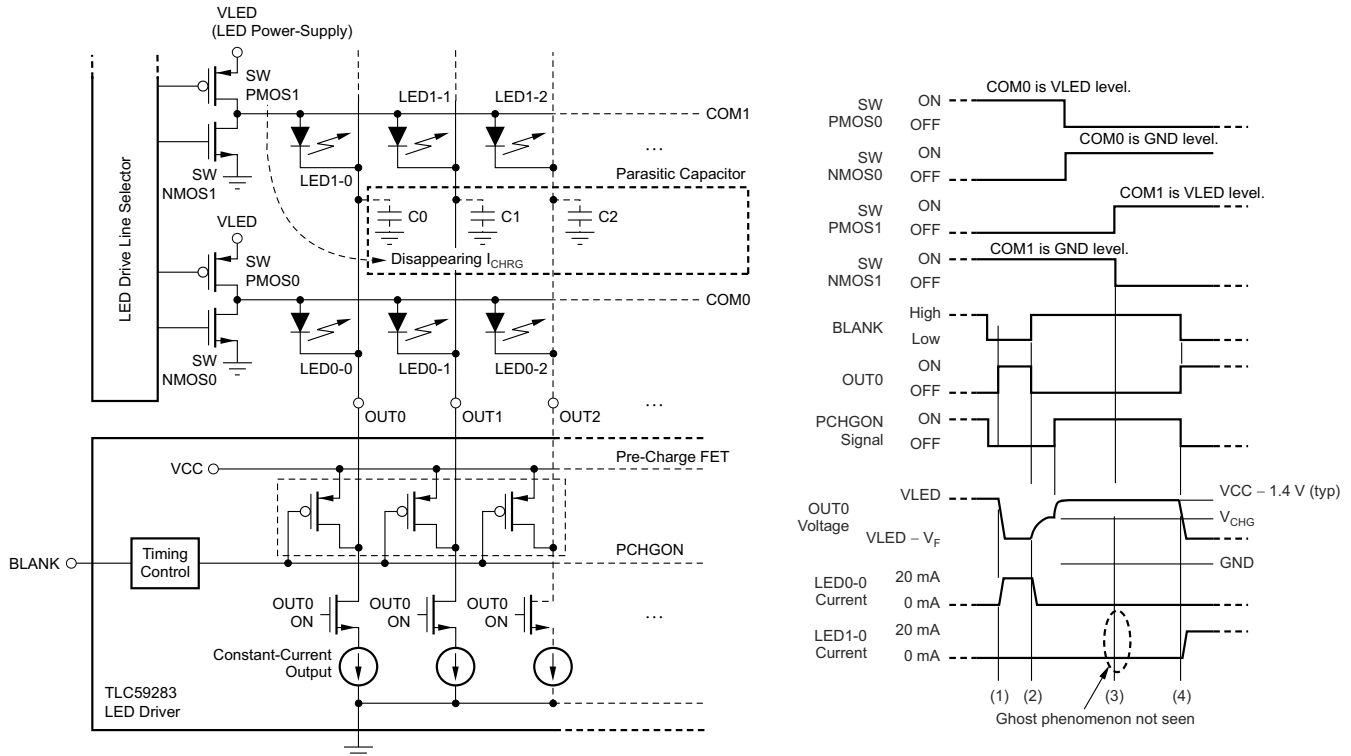

Figure 7-2. LED Ghost-lighting Mechanism by Pre-charge FET
The TLC59283 has an internal pre-charge FET to prevent ghosting, as shown in Figure 7-2. When a small delay after PWM control for a single common line completes, the FET pulls OUT_n up to V_{CC} . The charge current does not flow to C_0 through LED1-0 when SWMOS1 is turned on and the ghosting is eliminated at (3). However, depending on the LED anode voltage, the number of LEDs in series, the LED forward voltage, and the TLC59283 V_{CC} supply voltage, there may not be a great enough ghost-canceling effect.